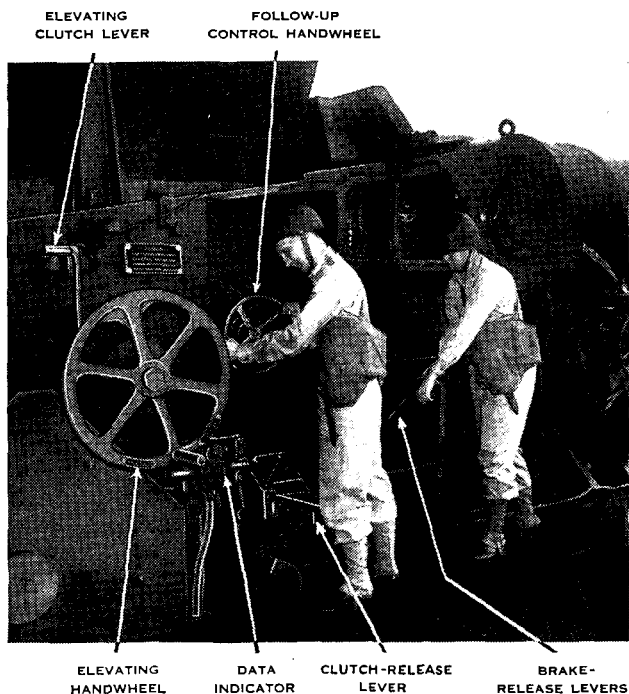

Figure 14. Elevating the gun.
25. ELEVATING MECHANISM. a. *To elevate by power* (fig. 14), the elevation setter first sees that the elevating clutch lever is in the POWER position and then presses the START button to activate the elevating motor. Turning the follow-up control handwheel counterclockwise will elevate the gun. As long as the handwheel is in motion the gun will move. To hold the gun at a certain elevation, the follow-up control handwheel need only be stopped.